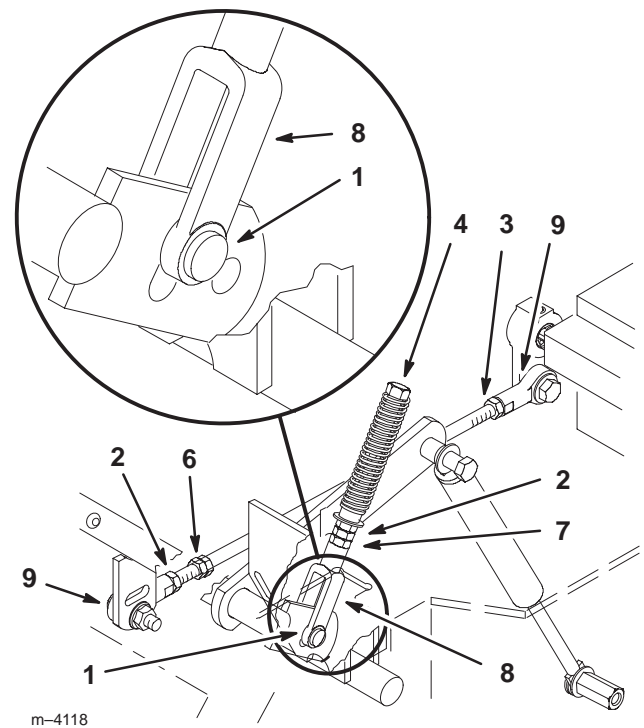

Figure 53
4. Pull lever back until the clevis pin (on arm below pivot shaft) contacts the end of the slot (just beginning to put pressure on the spring) (Fig. 53).
6. If adjustment is needed, loosen the nut and jam nut against the yoke (Fig. 53).
8. Tighten the nut and jam nut (Fig. 53).
1. Loosen the locknuts at the ball joints on pump control rod (Fig. 53).
3. Adjust pump rod length by rotating double nuts on rod, in the appropriate direction, until wheel is still or slightly creeps in reverse (Fig. 53).
6. Tighten the nuts at the ball joints (Fig. 53).